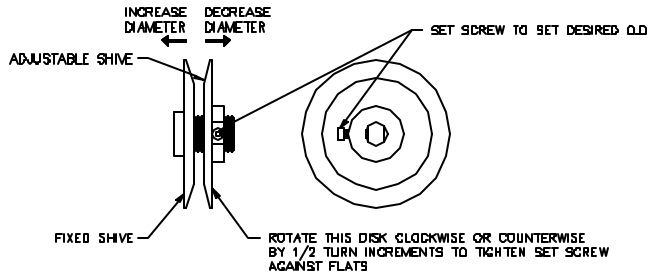

FIG. 5
3. Loosen motor pulley adjustment set screw and screw adjustable shive out away from fixed shive. Each turn will reduce the air flow by approximately 50 CFM. Tighten set screw onto flat (see FIG. 5).